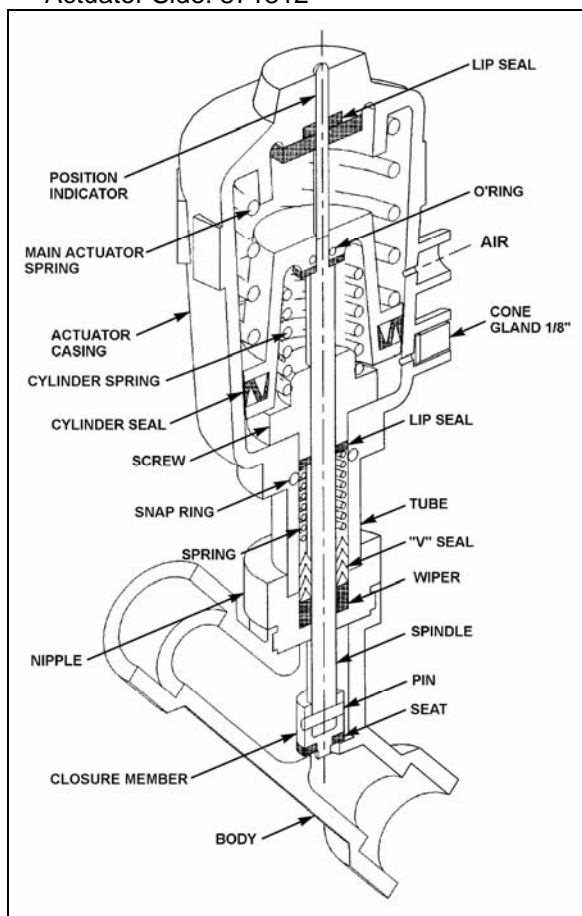

FIGURE 49: PASSENGER'S UNIT HOT WATER PNEUMATIC VALVE
2. The water valve need not be removed from the line. Unscrew nipple, the actuator casing, tube, spindle and closure member can be removed (figure 49).
2. Tighten the nipple in place in the body cavity as per Figure 49. Fasten pilot solenoid valve to the pneumatic water valve. Reconnect air supply pressure and electrical current to the pilot solenoid valve.